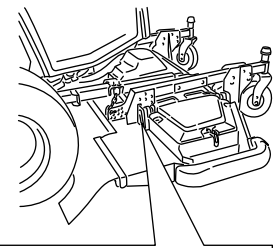

Figure 18
- Remove the hairpin cotter and clevis pin securing the height-of-cut chains to the rear of the mower deck (Figure 18).